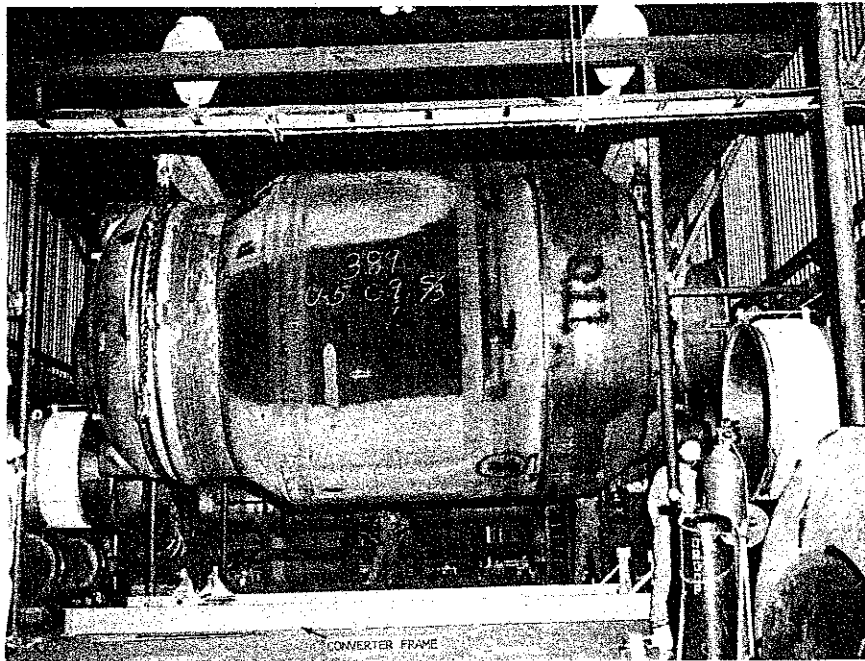

FIG. 9 CONVERTER INSTALLATION
- c. Lower the converter into place on converter support frame and align converter stage piping as follows (Fig. 9):